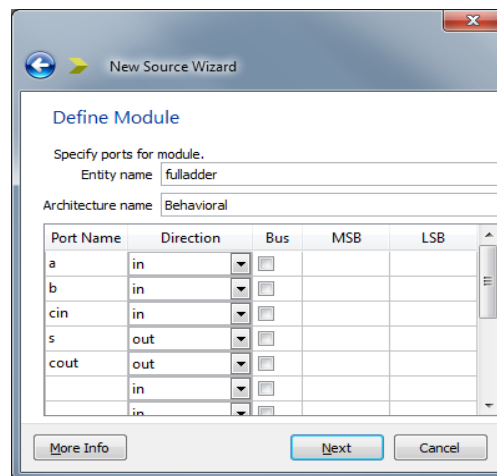

Figure 2.
5. Now we can initialize the ports in the dialogue box and determine their directions which mean that whether they are inputs, outputs, or both. If you check mark Bus, this means that the port is not only a single bit value and you can specify the bits to MSB(Most Significant Bit) and LSB(Least Significant Bit). See Figure 2.